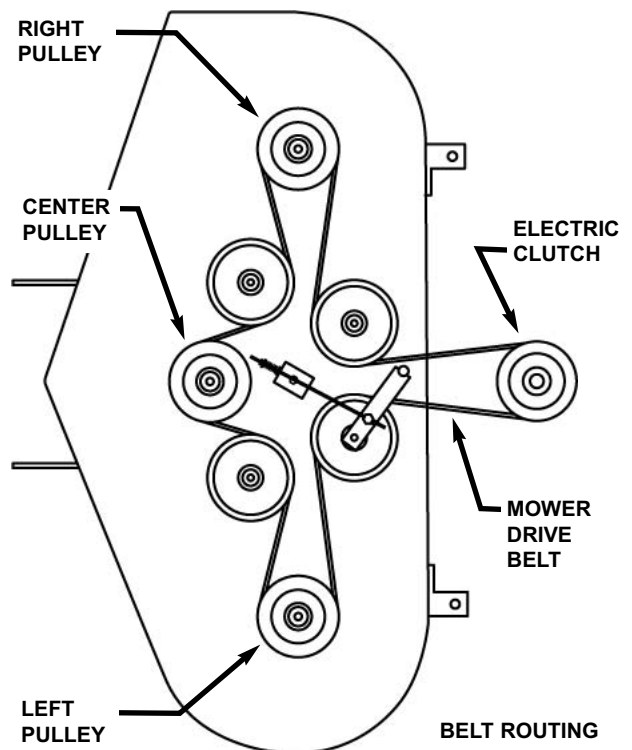

FIGURE 5.13
3. Remove old mower drive belt. Note the belt routing. See Figure 5.13.
1. Route new belt around blade pulleys, idler pulley, and clutch pulley in the same position as old belt was removed. See Figure 5.13.